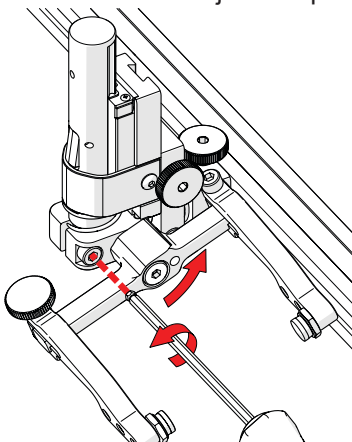

Fig. 62 - Loosen 3 mm screw
2. Using the supplied 3 mm hex driver loosen the transverse adjustment screw (*Fig. 62*) and rotate the yoke about the vertical shaft achieving the desired angle.